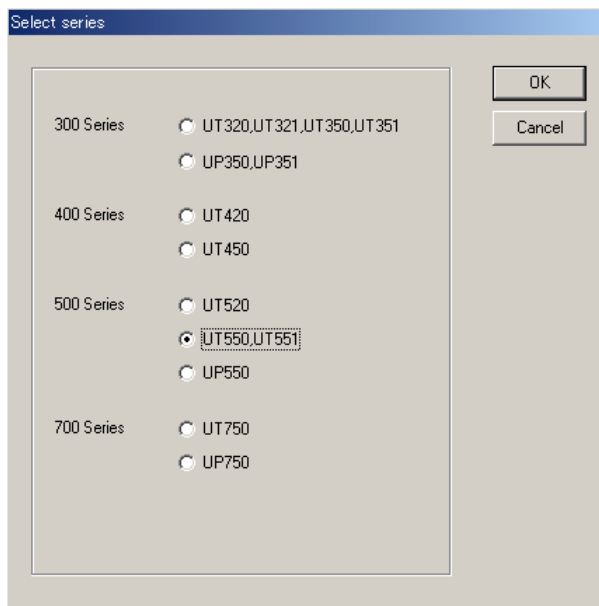

Figure 3.1.2 Select Series Dialog Box
- (4) Select **Parameter Setting Tool** and click **OK**.
- (5) The Select Series dialog box (Figure 3.1.2) appears.